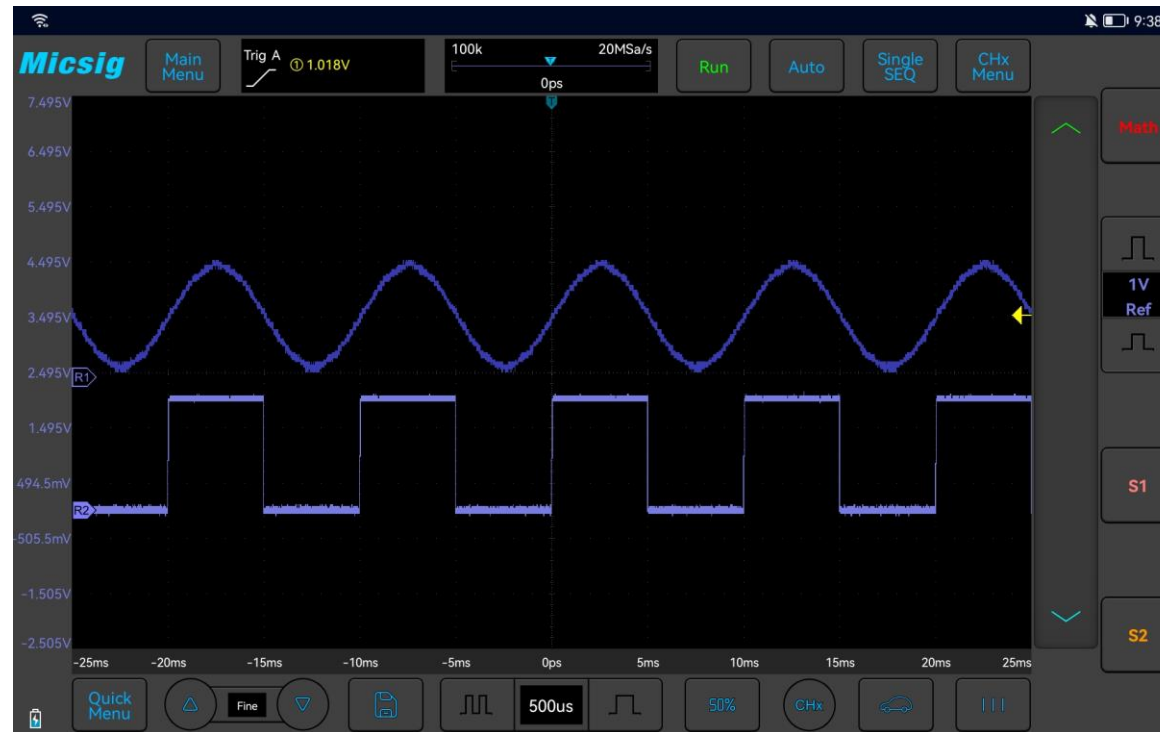

Figure 9-6 Current Reference Waveform
- 3) Click the name of the reference waveform file to be called. The file is loaded into R1 channel. Then, R1 channel is turned on as the current channel waveform, and the reference waveform channel icon  is highlighted. The displayed state changes from “Close” to “Open”. As in Figure 9-6, the brighter reference waveform is shown as the current reference channel.